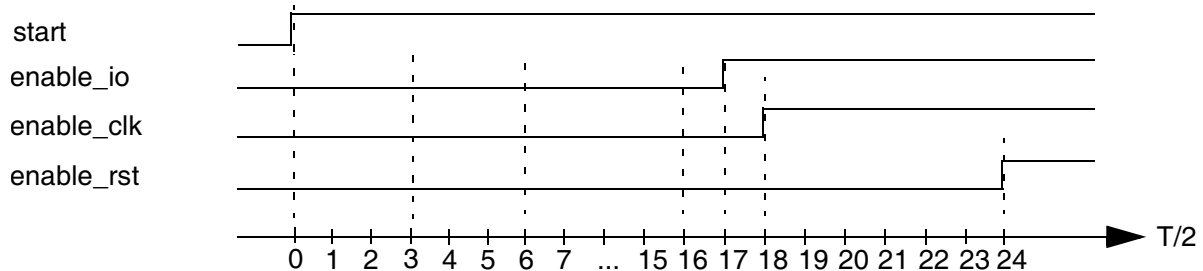
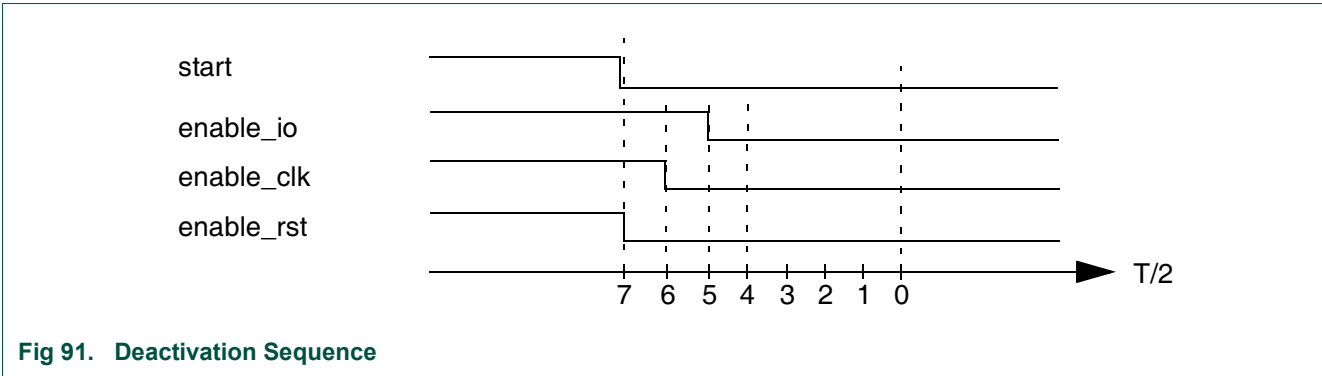

Fig 90. Activation Sequence
Fig 91. Deactivation Sequence
- The activation sequence is stopped between 0 and the rising of `enable_io` on Figure 90. The deactivation sequence will start from $4T/2$ on Figure 91 and go to 0.
- The activation sequence is stopped between the rising of `enable_io` and the rising of `enable_rst` on Figure 90. The deactivation sequence will start from $6T/2$ on Figure 91 and go to 0.
- The activation sequence is stopped after the rising of `enable_rst` on Figure 90. It is the normal case: the deactivation sequence will start from $7T/2$ on Figure 91 and go to 0.